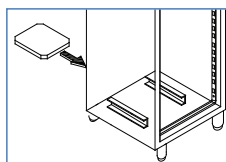

Figure 3
- Slide into the appropriate runners, on the lower part of the refrigerator, the condensation waste tray and for appliances that have automatic trays, connect the connector. (Fig. 3)